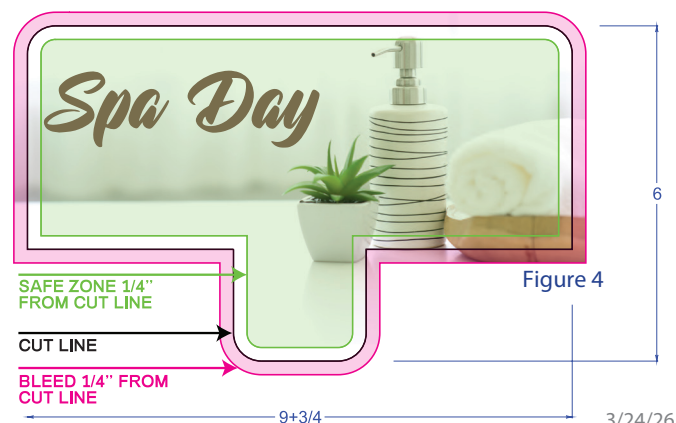

Figure 4
- Remove graphics and or links from tabs or bottoms of structures that do not need to print. (Figure 4)